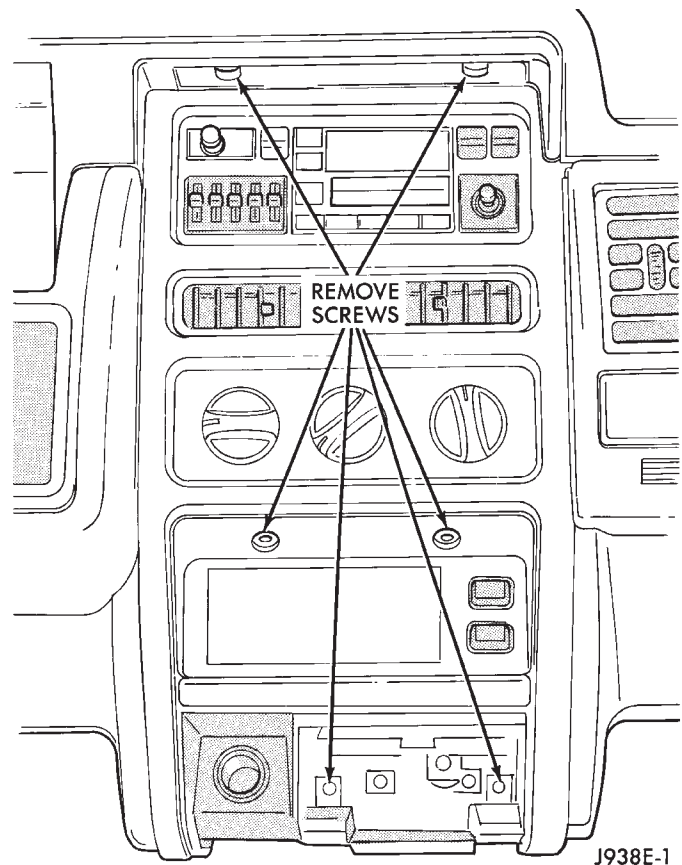

Fig. 2 Center Bezel Upper Screws
(1) Disconnect battery negative cable.
(2) Remove two screws holding top of center cluster bezel (Fig. 2).